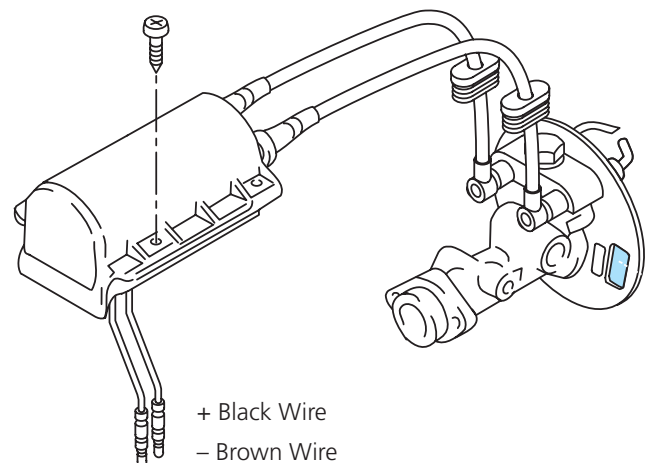

Figure 44: Ignition Coil Replacement
3. Remove the four screws securing the ignition coil to the protection cap (see Fig. 44).